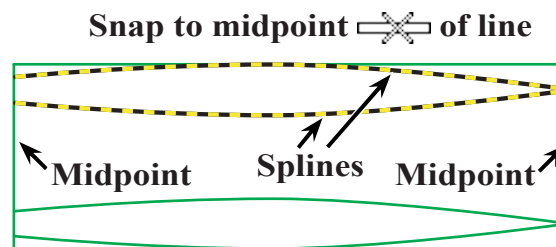

Fig. 7
Step 2. Click **both splines** and click **End Selection**  (ENTER) **Fig. 7**.
Click **midpoint** of both vertical lines of rectangle, **Fig. 7**